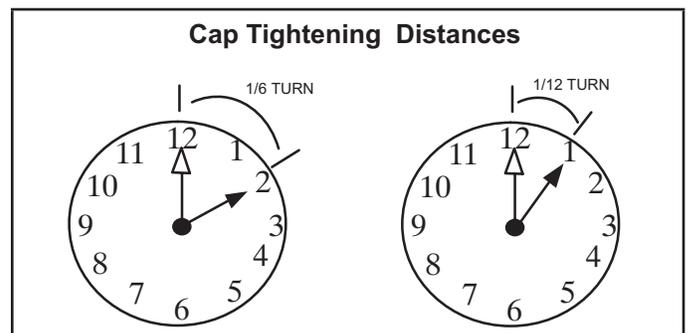

FIGURE 4
- *Without Torque Wrench:* Finger tighten and use an appropriately sized wrench to turn an additional 1/6 turn clockwise as illustrated in figure 4.